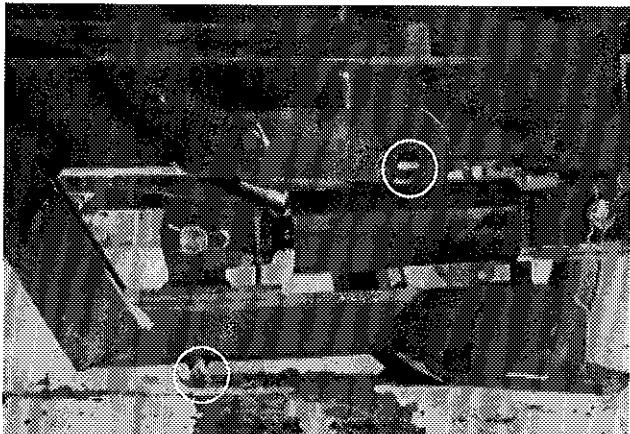

Figure 13
- 2) Do not forget to unlock the hydraulic jack before lowering and always lock it when in the retracted position. (Fig. 13)